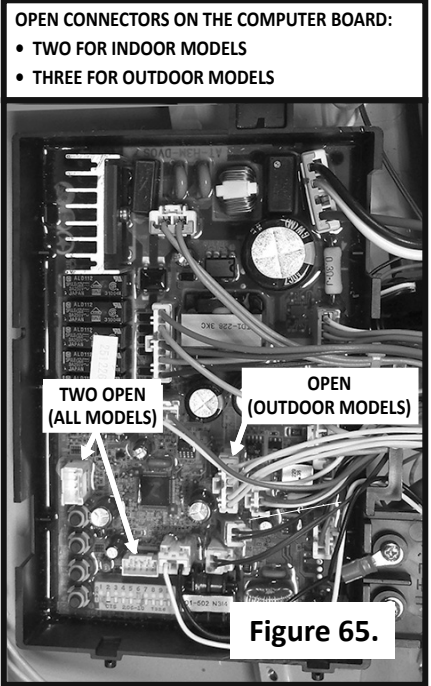

Figure 65.
There are two (2) receptacles on the computer board that will be open (Figure 65).
- Outdoor Models: There are three (3) receptacles on the computer board that will be open (Figure 65).